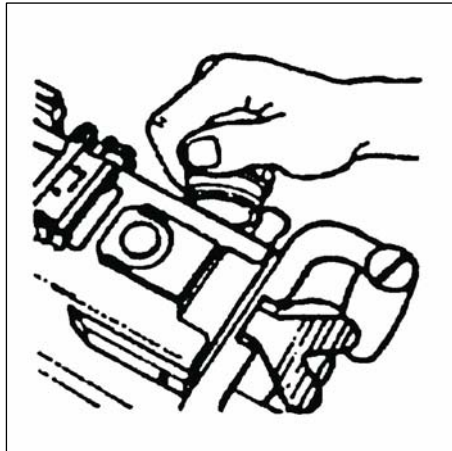

Figure 071-030-0001-2. Removal of backplate pin
(3) Using the rim of a spent cartridge, pull the backplate pin straight out (figure 071-030-0001-2).